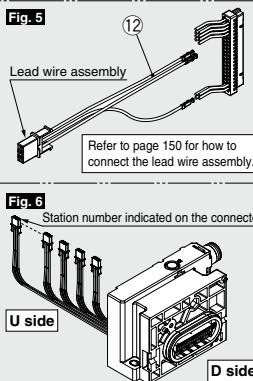

Fig. 6
- 14) Mount each junction box B to each junction box A. Push the wires down and mount each junction box B to each junction box A starting with the connector station numbers on the U side. (Refer to **Fig. 6**.) (Do not let the lead wire get caught.)
⑫ Lead wire assembly